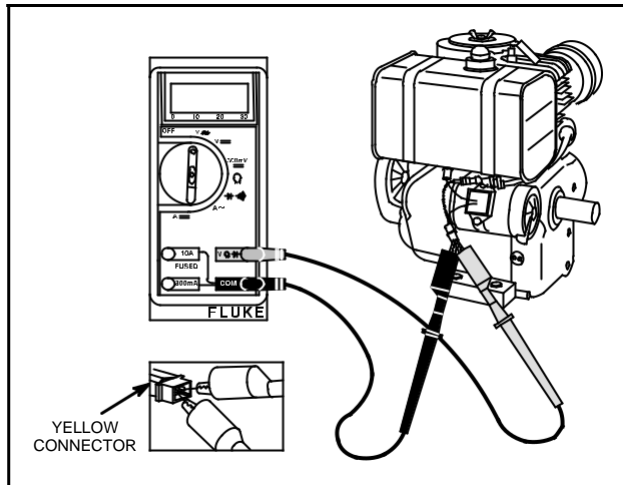

Fig. 781— TESTING ALTERNATOR OUTPUT
4. Insert RED and BLACK test lead probes into output terminals in yellow connector, as shown in Fig. 781. (Meter test clip leads may be attached to either terminal.)